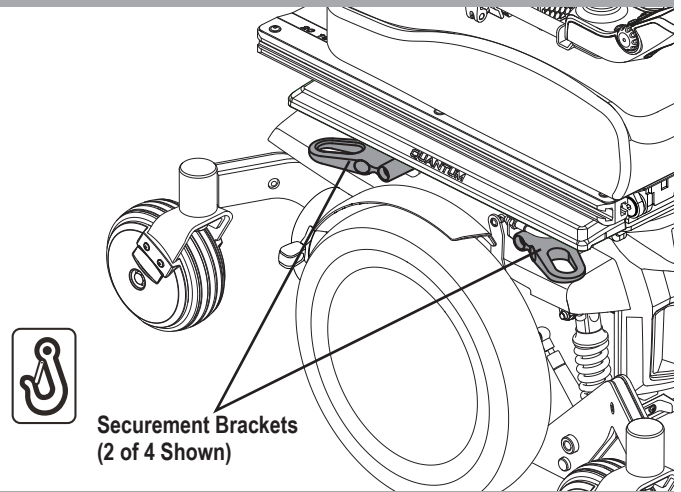

Figure 12. Transit System Securement Brackets
If your power chair is equipped with a transit securement system, it is equipped with manufacturer installed front and rear securement brackets and may be equipped with positioning belt anchoring brackets. **See figure 12.** Refer to the supplement provided with your power chair for information on how to use the transit securement system.
- Attach the four (4) tie-down straps to only designated, labeled transit securement points indicated by anchor symbols on the power chair. **See figures 12 and 13.** Tighten the straps sufficiently to remove all slack.